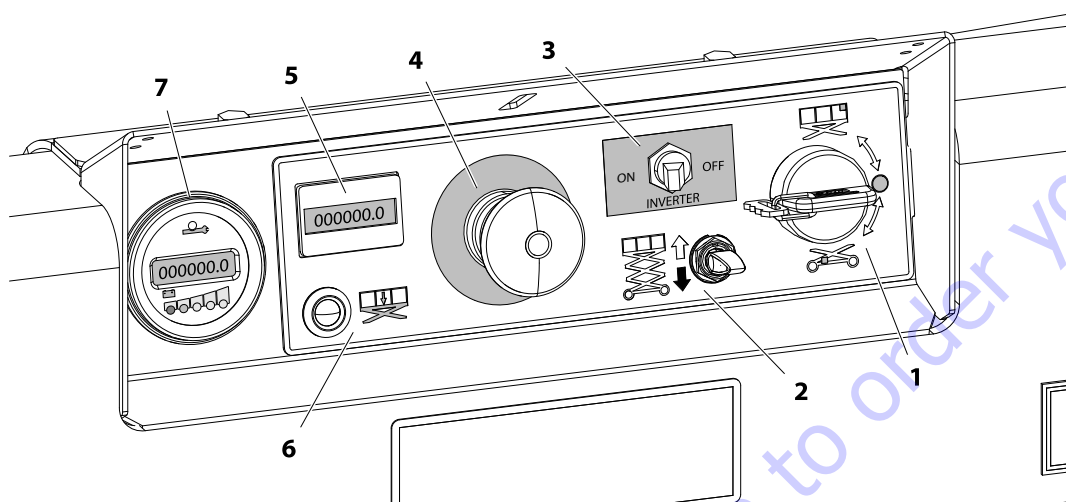

Figure 3-10. Ground Control Station
Set the master power switch (*item 5*) on the side of the inverter unit to ON and leave it there. Use the inverter on/off switch at the Ground Control panel (see Figure 3-10, item 3) to power the inverter on and off, via the DC power contactor relay (item 6 in illustration below).